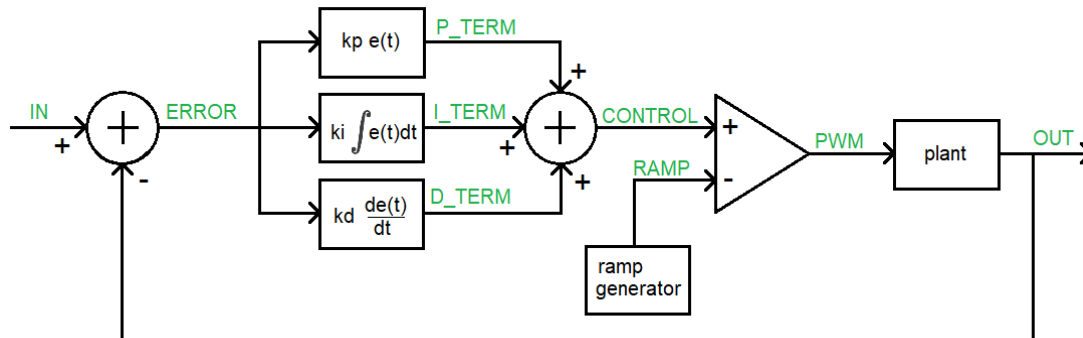

Figure 1: High-level architecture of the PID Controller board.
- a. What opamp and resistors form the summer junction that outputs **ERROR** in Figure 1? **Error! Reference source not found.?**
- a. What opamp/resistors in the form the first stage of the **P_TERM** in Figure 1?
- c. What opamp/resistors form the second stage of the **P_TERM** in Figure 1?
- a. What opamp/resistors in the form the first stage of the **I_TERM** in Figure 1?
- c. What opamp/resistors form the second stage of the **I_TERM** in Figure 1?
- a. What opamp/resistors in the form the first stage of the **D_TERM** in Figure 1?
- c. What opamp/resistors form the second stage of the **D_TERM** in Figure 1?
- a. What opamp and resistors form the summer junction that outputs CONTROL in Figure 1?
- a. Given RAMP (in red) and CONTROL (in blue) shown in the following timing diagrams, draw the output PWM signal using the open-loop opamp configuration shown in Figure 1.